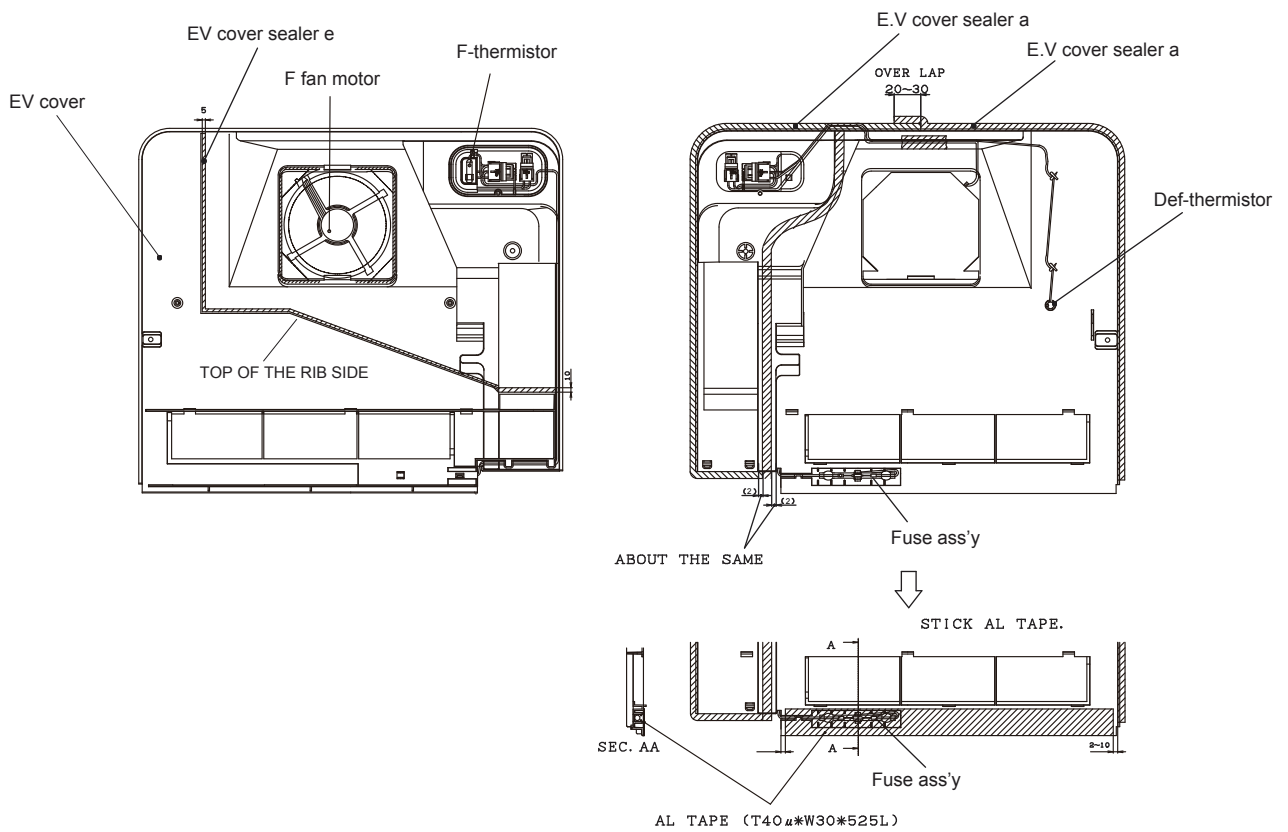

Figure A-5
4) Setting of F-fan motor , F-thermistor , Def-thermistor , Fuse ass'y in the EV cover and stick Al tape. (Figure A-5)